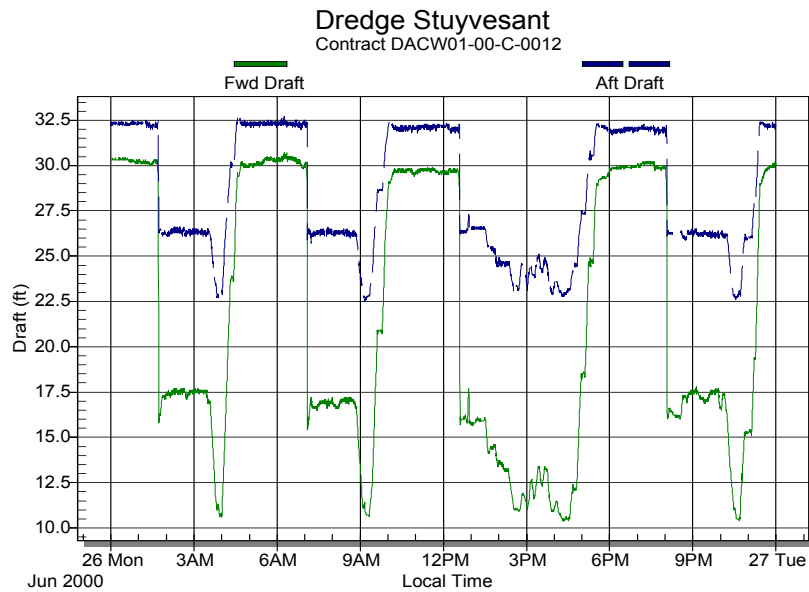

Figure 2.13 Subset Plot
3. The plot should now appear as shown in Figure 2.13 with only the data sets selected.